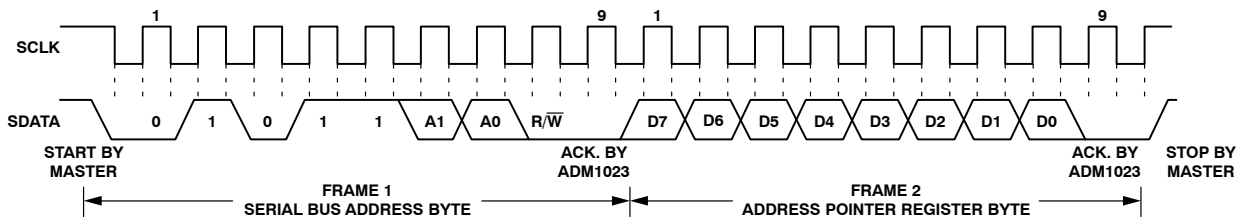
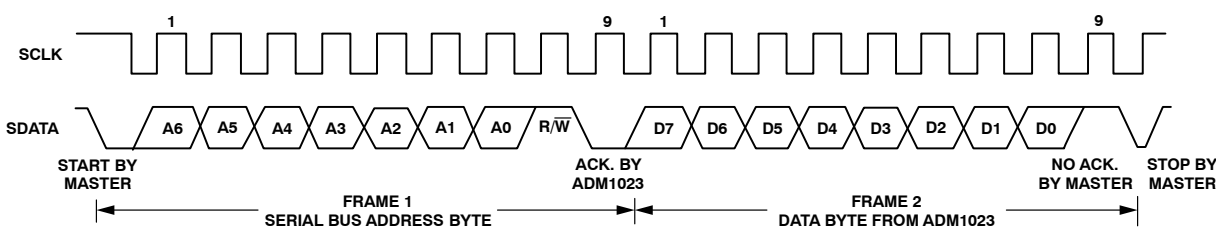

Figure 16. Writing to the Address Pointer Register Only
Figure 17. Reading Data from a Previously Selected Register
1. If the ADM1023's address pointer register value is unknown or not the desired value, it is necessary to set it to the correct value before data can be read from the desired data register. This is done by performing a write to the ADM1023 as before, but only the data byte containing the register read address is sent, as data is not to be written to the register. This is shown in Figure 16. A read operation is then performed consisting of the serial bus address, R/\overline{W} bit set to 1, followed by the data byte read from the data register. This is shown in Figure 17.